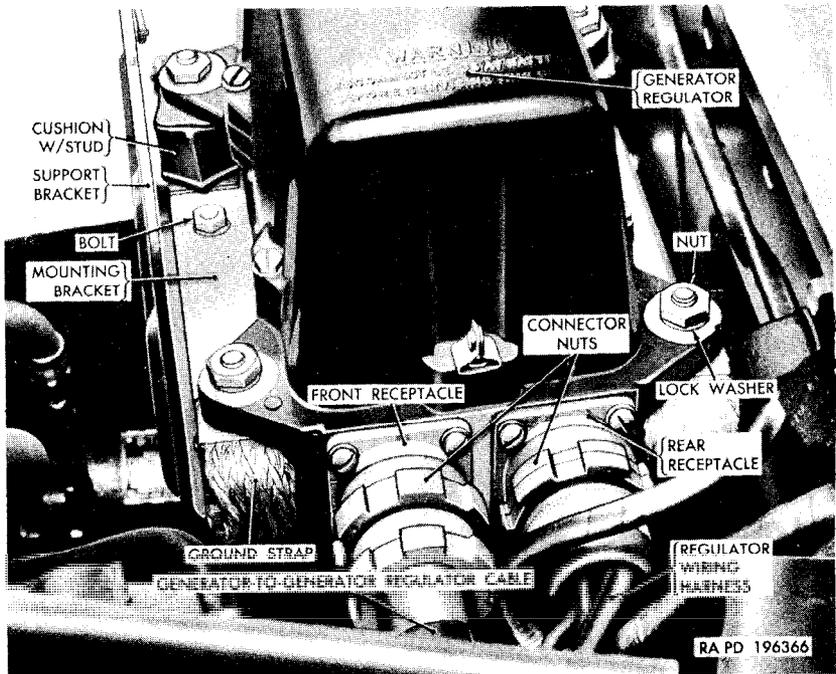
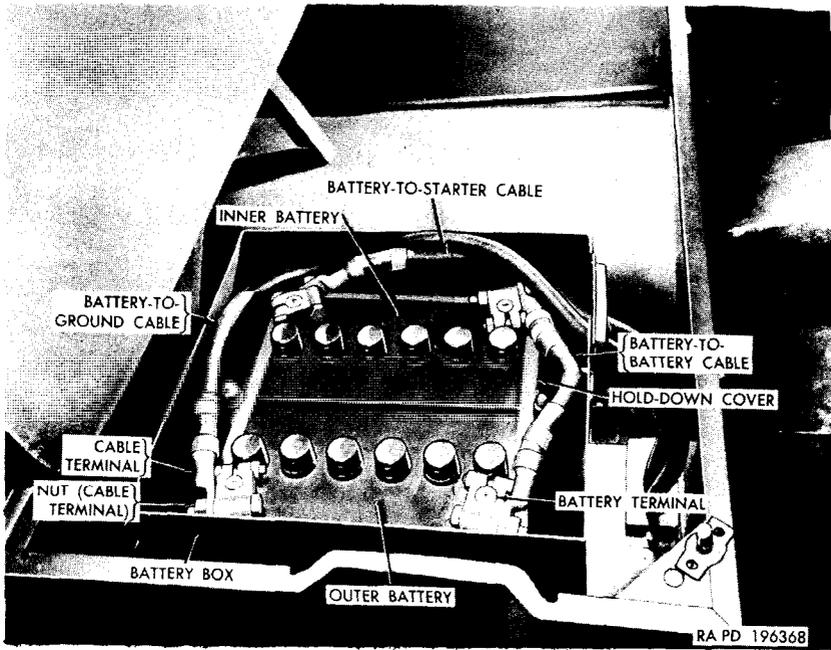
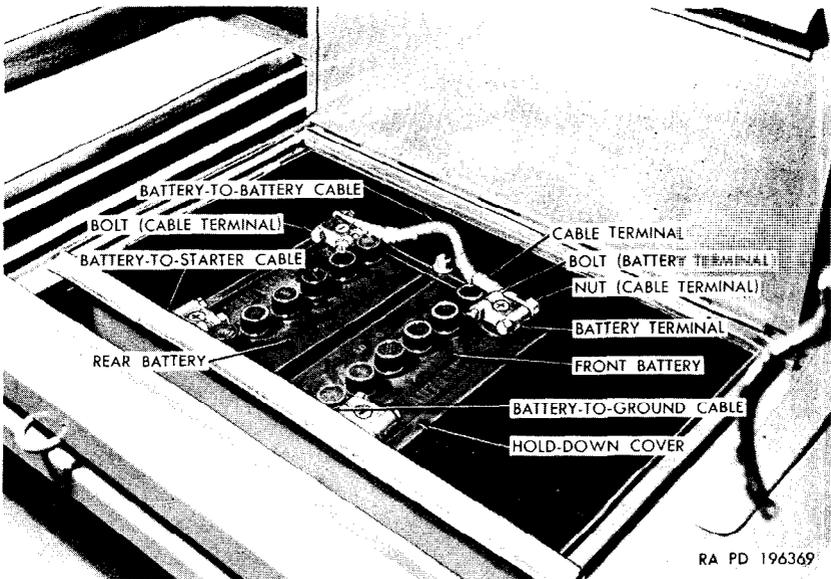

Figure 133. Generator regulator installed
Figure 135. Battery box location (all models except early production ambulance truck M43).
Figure 136. Battery box location (early production ambulance truck M43).
- (4) Connect the battery-to-ground cable to the negative (-) post of the outer battery (fig. 135).
- (5) Polarize the generator (g below).
- (6) Connect the generator-to-regulator cable, turning the connector end nut securely into place with a suitable spanner wrench.
- (1) Remove the four lockwasher screws which secure the left fender-to-hood panel and remove the panel.
- (2) Disengage the cable from the cable clip on the left front fender. Unscrew the generator-to-generator-regulator cable connector end nuts from the receptacle (C) and the front receptacle of the generator regulator (fig. 133), and remove the cable.
- (3) Connect the cable to the generator receptacle (C) and the front receptacle of the generator regulator (fig. 133), screwing the connector end nuts to the receptacles. Engage the cable in the cable clip on the left front fender.
- (4) Position the left fender-to-hood panel and install the four lockwasher screws. Tighten the screws.
a. Remove Generator Regulator (fig. 133).
- (1) Disconnect the battery-to-ground cable from the negative (-) post of the outer battery (fig. 135).
- (2) Remove the left fender-to-hood panel (par. 164h(1)).
- (3) Disengage the generator-to-regulator cable from the cable clip on the left front fender. Disconnect the generator-to-regulator cable and the regulator wiring harness from the generator regulator receptacles, using a suitable spanner wrench.
- (4) Remove the four nuts and lockwashers that secure the regulator, and remove the regulator.
b. Remove Cushions, Regulator Brackets, and Ground Straps (fig. 133).
- (1) Unscrew the four cushions with studs from the mounting brackets, and remove the cushions and ground straps.
- (2) Remove the four nuts, lockwashers, and bolts that secure the two mounting brackets to the regulator support bracket, and remove the two brackets.
d. Install Regulator Brackets, Cushions, and Ground Straps (fig. 133).
- (1) Make certain that the contacting surfaces of the mounting brackets and the ground straps are thoroughly clean, to insure a good ground connection.
- (2) Position the two mounting brackets on the support bracket and install the two $\frac{1}{4}$ -28NF x 1 bolts (from the upper side of the brackets), $\frac{1}{4}$ x 0.760 internal-external-teeth lock-washers, and $\frac{1}{4}$ -28NF nuts for each bracket. Tighten the nuts.
- (3) Place one end of a ground strap over each cushion stud opening in the two mounting brackets. Install the four cushions, screwing the short end of each stud into the support bracket hole.
- (1) Place the outer end of each ground strap on the upper end of its cushion stud, position the regulator on the four cushion studs with the two receptacles to the left side of vehicle, and install the four $\frac{5}{16}$ -inch lockwashers and $\frac{5}{16}$ -18NC nuts (fig. 133). Tighten the nuts.
- (2) Connect the regulator wiring harness to the rear receptacle and the generator-to-generator-regulator cable to the front receptacle, screwing the connector end nuts to the receptacles. Engage the generator-to-generator-regulator cable in the cable clip on the left front fender.
- (3) Install the left fender-to-hood panel (par. 164h(4)).
- (1) Current for the 24-volt lighting system (fig. 134) is supplied by two 12-volt batteries. Batteries (fig. 135) for all models, except the early production models of the ambulance truck M43, are located in a box under the passenger's seat in the driver's compartment. Batteries (fig. 136) for the early production vehicles of the ambulance truck M43 (par. 6) are located in the left front compartment under the patient's seat.
- (2) Organizational maintenance of the batteries and lighting system includes cleaning, inspection, and replacement of the batteries and battery cables, replacement of lamps, lamp-units, lights, light switch, dimmer switch, and circuit breakers.
- (1) Loosen the nut on the battery terminal bolt at the negative (−) post of the outer battery (fig. 135) or front battery (fig. 136) and remove the terminal with attached ground cable. Remove the battery-to-battery cable and the battery-to-starter cable in the same manner. Remove the insulator from the positive (+) post of the inner battery (fig. 135) or rear battery (fig. 136) if so equipped.
- (1) For vehicles with the batteries under the passenger seat, install the batteries in the battery box with the negative (−) post of the inner battery toward the front and that of the outer battery (fig. 135) toward the rear. For ambulance truck M43 with batteries in the patient compartment, install the front battery with the negative (−) post toward the center of the vehicle and that of the rear battery toward the left side of the vehicle (fig. 136).
- (2) Install the holddown cover and install the $\frac{3}{8}$ -inch flat washers and $\frac{3}{8}$ -16NC nuts on the two holddown cover bolts. Tighten the nuts.
- (3) Lubricate the battery posts (par. 167a(2)). Install the battery-to-battery cable and battery terminals, being sure to install each terminal on the correct battery post (positive on positive and negative on negative (figs. 135 or 136)).
- (4) Install the rubber insulator on the positive post of the inner
battery (fig. 135), or the rear battery (fig. 136), if required. Refer to NOTE in *b*(1) above. Install the battery-to-starter cable and battery terminal on the battery post.